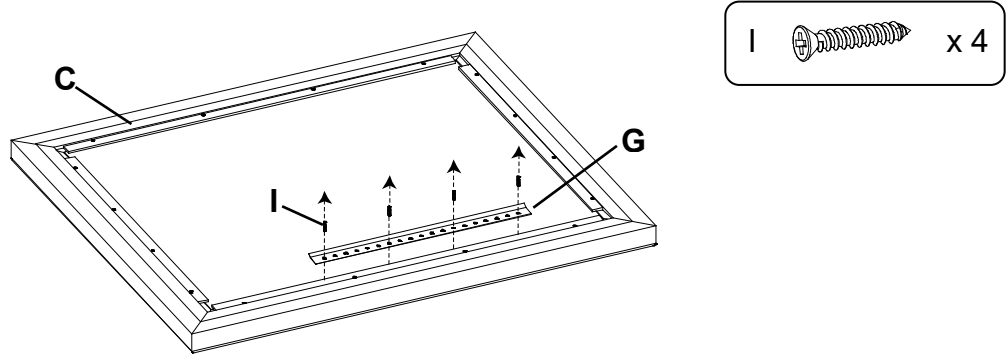

Fig. 5
5. To attach the Mirror to a McKenzie Dresser, remove the Mirror Wall Bracket (G) that is attached to the Mirror Frame (C) as shown in Figure 5. Keep these Mirror Wall Brackets (G) and the four #6 x 3/4" Flat Head Screws (I) in the chance that in the future, you will want to mount the Mirror to the wall.